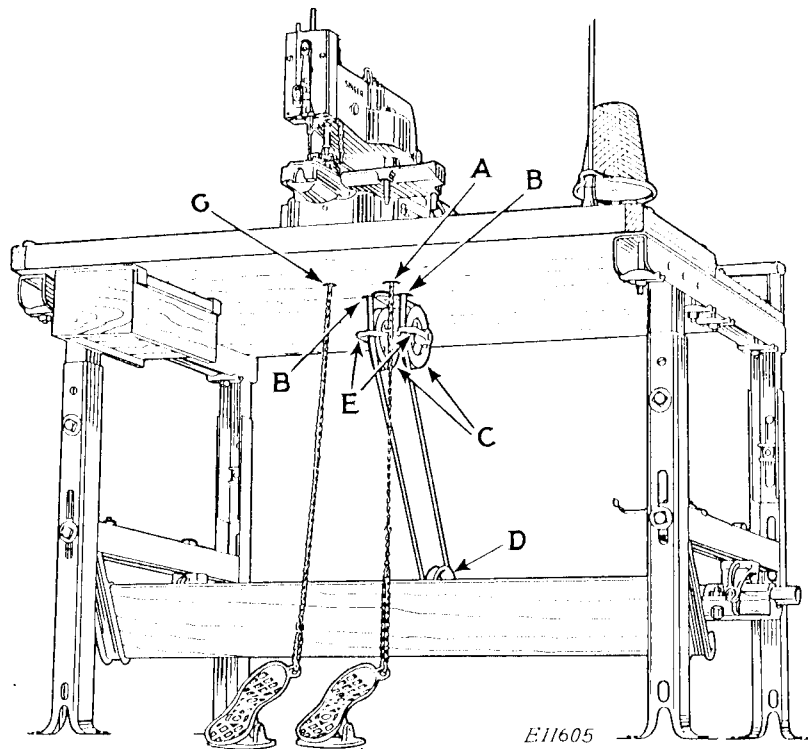
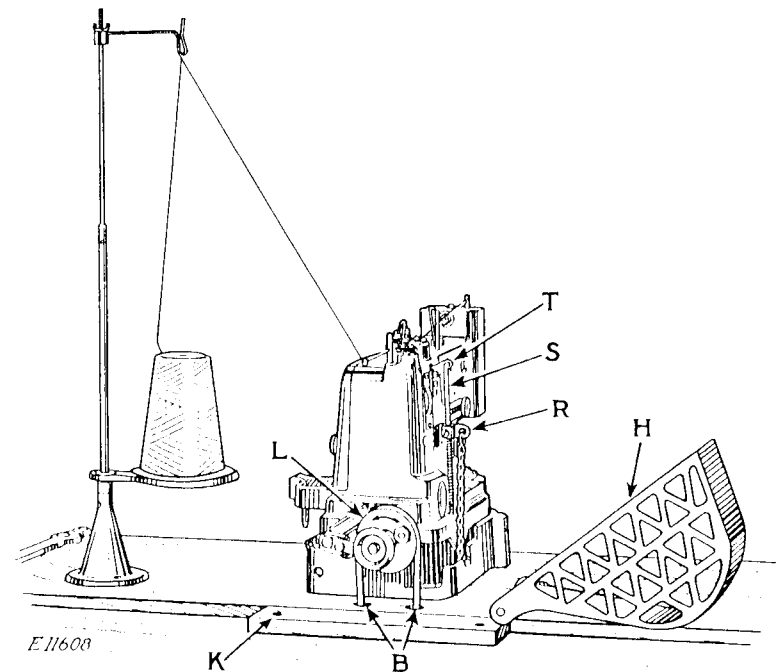
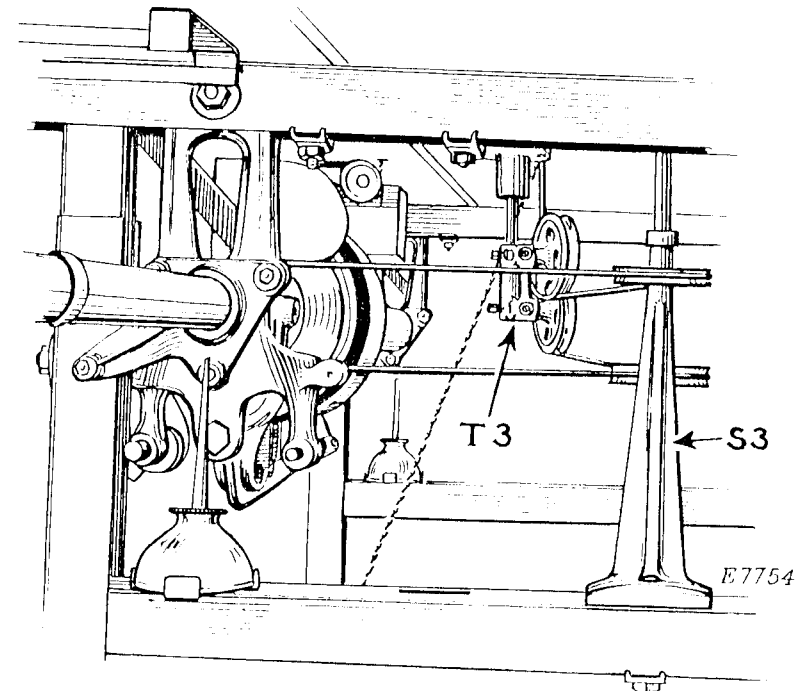

Fig.2. Machine Installed on SINGER Universal Low Shaft Power Table
Fig.3. Rear View of Machine - Installed
Fig.4. Underside of SINGER Universal Safety Power Table Showing Idler and Belt Guide
Each machine is set up with its face plate toward the operator as shown in Fig.2. It is furnished with a removable base which must be properly attached to the table before the sewing machine is placed upon the base.
In the installation shown by Figs.2 and 3, the two belt holes (B) are bored in the table to center 14-1/2 inches from the front edge of the table top. These belt holes should be spaced 2-1/2 inches center to center, and the diameter of the belt holes (B) may be from 5/8 to 1 inch.
Place the machine base on the table so that when the sewing machine is placed upon the machine base, the machine driving pulley (L, Fig.3) will be directly above the two belt holes (B, Fig.3).
The treadle chain for the button clamp lifting rod (S, Fig.3) (the left hand chain) passes through the elongated hole in the left hand side of the machine base; while the right hand treadle chain (for the starting lever which is inside the machine base)
passes through the round hole in the right hand side of the machine base. Therefore, with the machine base placed in proper relation to the belt holes (B, Figs.2 and 3), as instructed on the
preceding page, the holes (G, and A, Fig.2) should be bored in the table for the two treadle chains. The right hand treadle chain hole (A, Fig.2) should be bored in the front plank so that it is directly beneath the corresponding hole in the machine base, while the left hand treadle chain hole (G, Fig.2) should be bored in the table so that it is directly beneath the rod (S, Fig.3) which is attached to the button clamp lifting lever (T, Fig.3), thus bringing the hole at the left hand end of the elongated hole in the machine base.
The front plank extension (rear) (K, Fig.3) is fastened to the rear plank but with its front edge against the rear edge of the front plank and in such position, with relation to the machine driving pulley (L, Fig.3), that, when the belt and pulley guard (H, Fig.3) is turned down to cover the pulley (L), the rear bottom edge of the belt and pulley guard (H) will rest, throughout its entire length, upon the front plank extension (K).
The bracket for the belt and pulley guard (H) should be attached to the table in such position that when this guard is turned down it will fully cover the machine driving pulley (L, Fig.3) and that portion of the belting which is above the top of the table and, at the same time, so that no part of the pulley (L) or the belting will come in contact with the guard (H).
Fasten the bracket, with the two idler pulleys (C, Fig.2), in such position that the two belt guides (E, Fig.2) are directly beneath the two belt holes (B, Figs.2 and 3) in the front plank.
The machine belt should then be passed around the machine driving pulley (L, Fig.3), through the belt holes (B, Figs.2 and 3), through the belt guides (E, Fig.2), under the two idler pulleys (C, Fig.2) and around the large pulley (D, Fig.2) on the drive shaft below.
Bear in mind that the direction of rotation of the machine driving pulley (L, Fig.3) is from right to left when facing the rear of the machine. This direction is indicated by the arrow, shown in Fig.3, on the pulley (L). Note that this arrow appears only in the illustration and not on the actual pulley.
Fasten the two treadles in position on the floor as shown in Fig.2. Pass the chain from the right hand treadle up through the right hand hole (A, Fig.2) and fasten it to the machine starting lever in the machine base..
Pass the chain from the left hand treadle up through the left hand chain hole (G, Fig.2) and fasten it to the clamp (R, Fig.3) on the lifting rod (S, Fig.3), all as shown in Fig.3.
As will be seen in Fig.2, the length of each chain is easily regulated, at its lower end, for proper installation.
Fasten the belt guide 126870 (S3, Fig.4) to the cross member of the leg section, and fasten the idler 126885 (T3, Fig.4) to the under side of the center board as shown in Fig.4.
NOTE - The idler (T3) must be positioned directly beneath the machine to insure that the travel of the belt from the machine driving pulley (L, Fig.3) to the pulleys of idler (T3) will be approximately perpendicular, as shown in Fig.4.